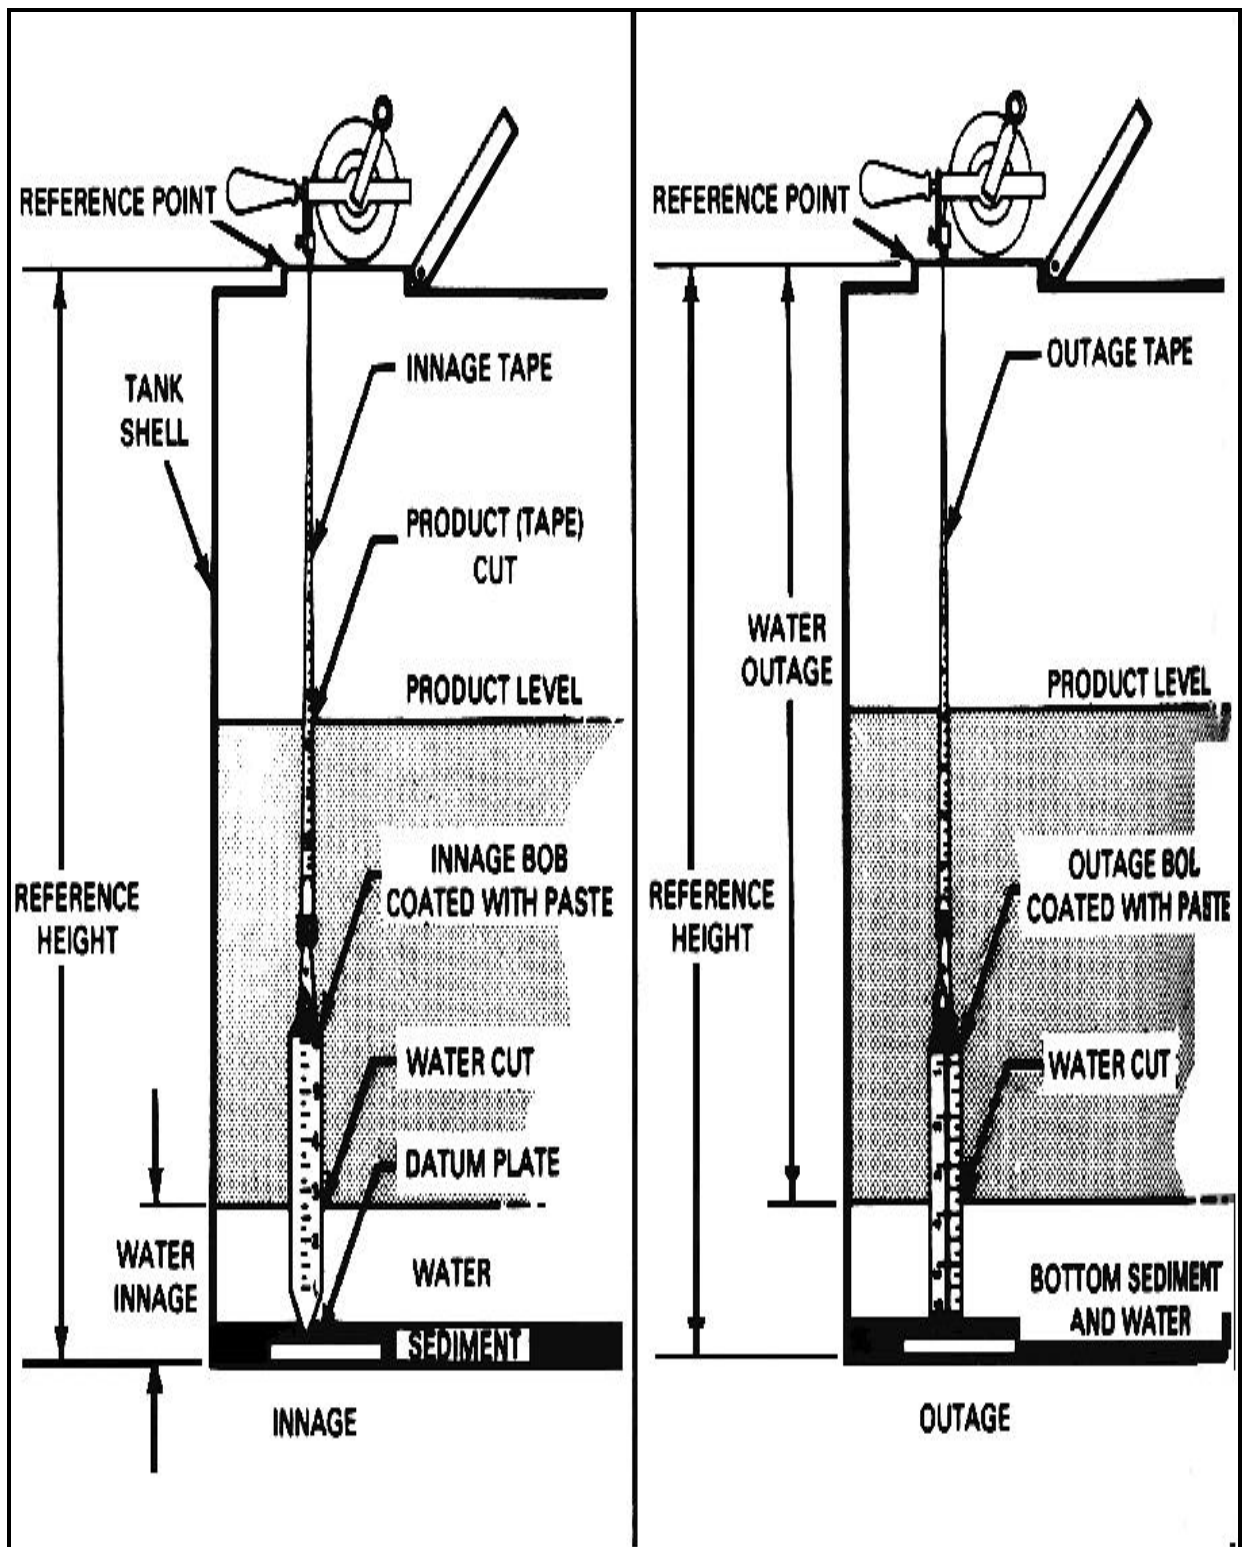
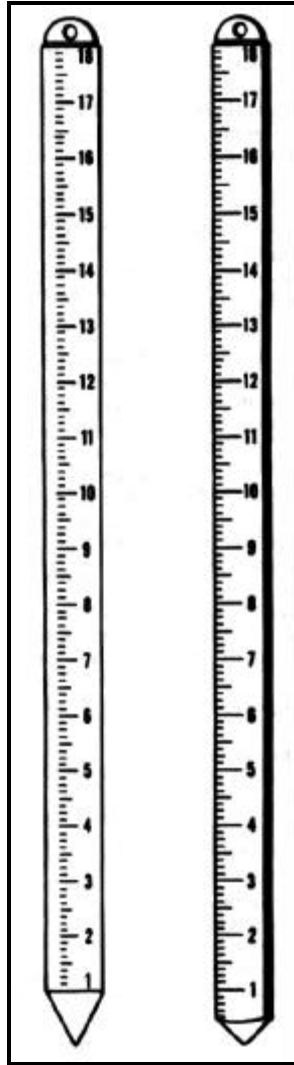

Figure 3-18. Taking water innage and outage readings
Figure 3-19. Typical water gage bars
- Use water-indicating paste to determine the water cut (Figure 3-18, page 3-18). Put a thin, even coat of paste on the part of the bob that will be at the point where water and product meet. Be careful not to put so much paste on the bob that it will cause a false reading. If the depth of the water is greater than the length of the innage bob, use a water gage bar (Figure 3-19, page 3-19) to measure the water in the tank.